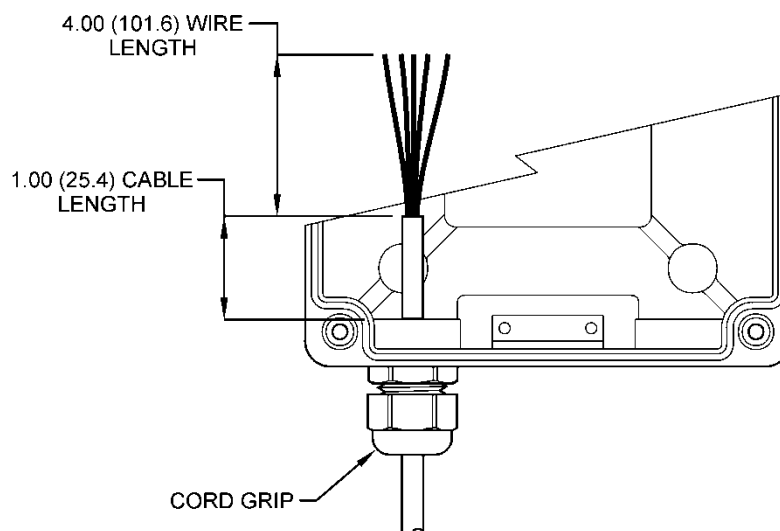

Figure 16 - Sensor cable Preparation
- Sensor connections are made in accordance with Figure 16 - Sensor cable Preparation